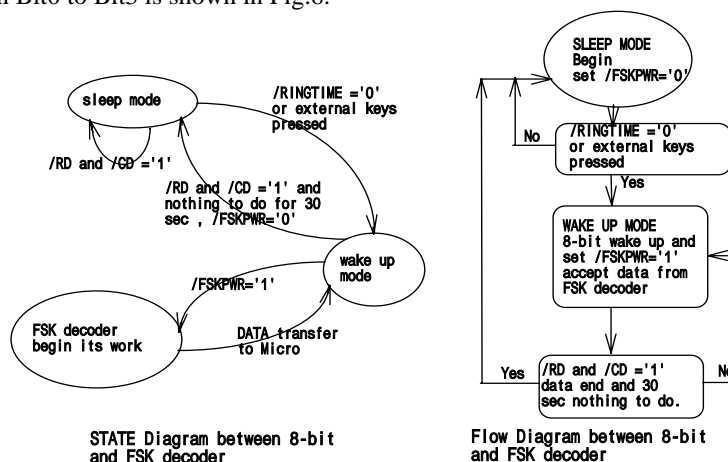

Fig6. The relation between Bit0 to Bit3.
- \* The relation between Bit0 to Bit3 is shown in Fig.6.